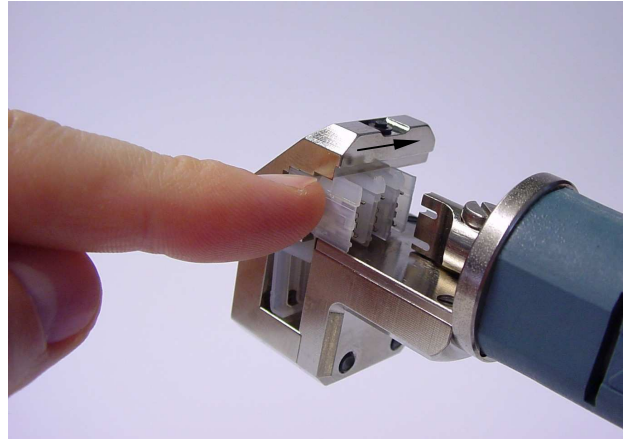

Figure 2
**1.** The connector to be processed has to be inserted into the transport guide in direction of the arrow, until the first insulation displacement contact is positioned in front of the insertion die (see figure 2)